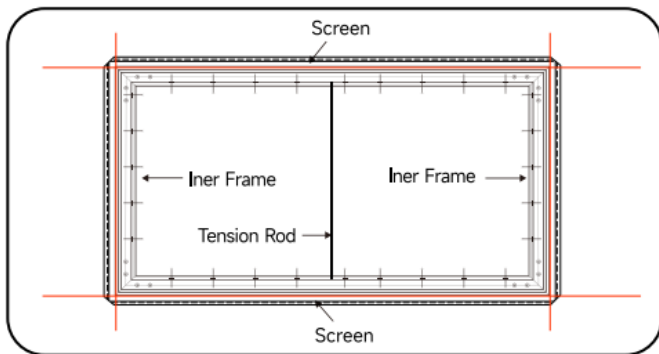

Figure 8
1. Take out the screen from the packaging box, tear off the tape that seals the packaging of the screen, and slowly roll the screen onto the non-woven fabric with the back of the screen facing up and the projection surface facing down. Then, place the inner frame in the center of the screen, ensuring that the four sides of the inner frame are parallel to the four sides of the screen (see Figure 8).